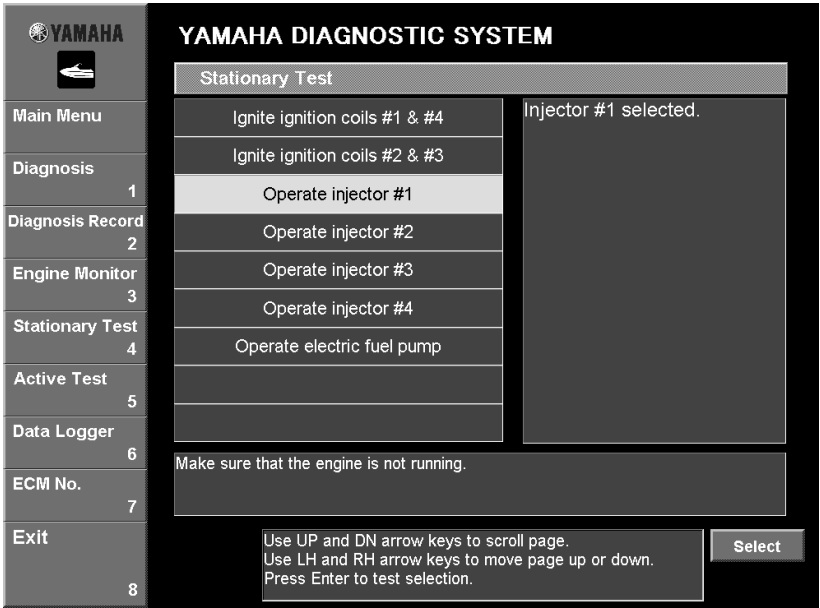

Fig. 48
1. Select the test that you wish to perform by either clicking it or pressing the up or down arrow keys on your keyboard. (Fig. 48)
2. Select the cylinder to be tested, and then click the **Select** button or press the Enter key on your keyboard. (Fig. 48)